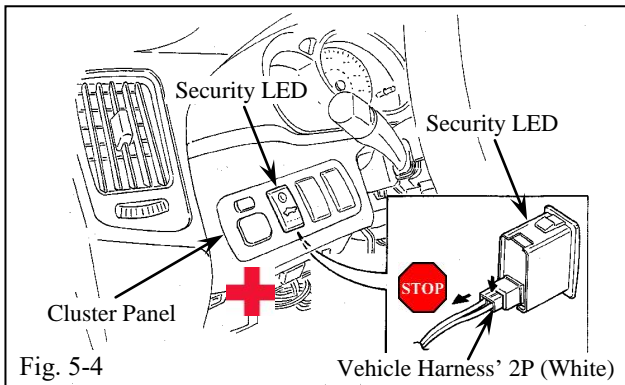

Fig. 5-4
- (e) Locate the security LED in the cluster panel. (Fig. 5-4)
- (1) Do not perform this step if the vehicle does not have an immobilizer system.